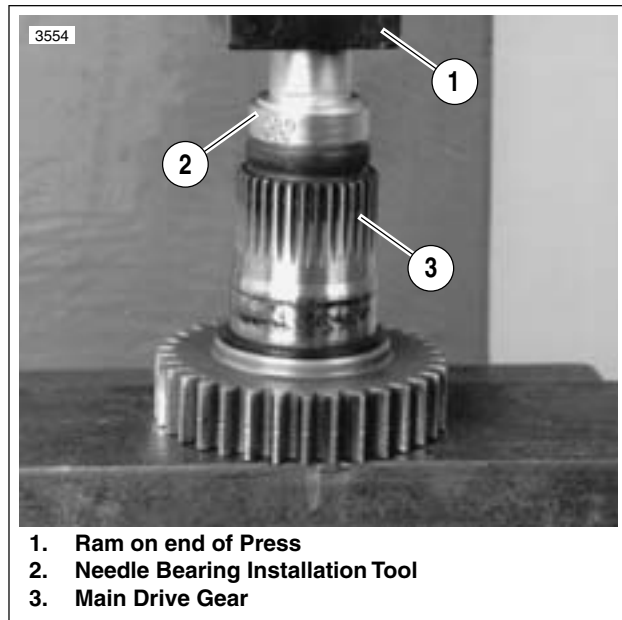

Figure 6-50. Needle Bearing Installation Tool
- See Figure 6-50. Use INNER/OUTER MAIN DRIVE GEAR NEEDLE BEARING INSTALLATION TOOL (Part No. HD-37842-A) for assembly. Select which end of tool to use.